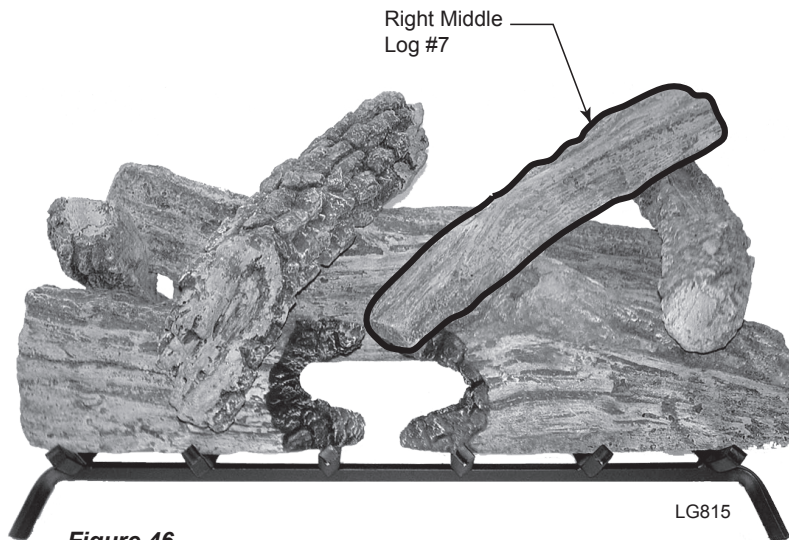

**Figure 44 -
4. Fit cutout in the bottom left of Rear Log #3 over the back end of log #2. Place right end of Log #3 on rear grate bar. *Figure 44*